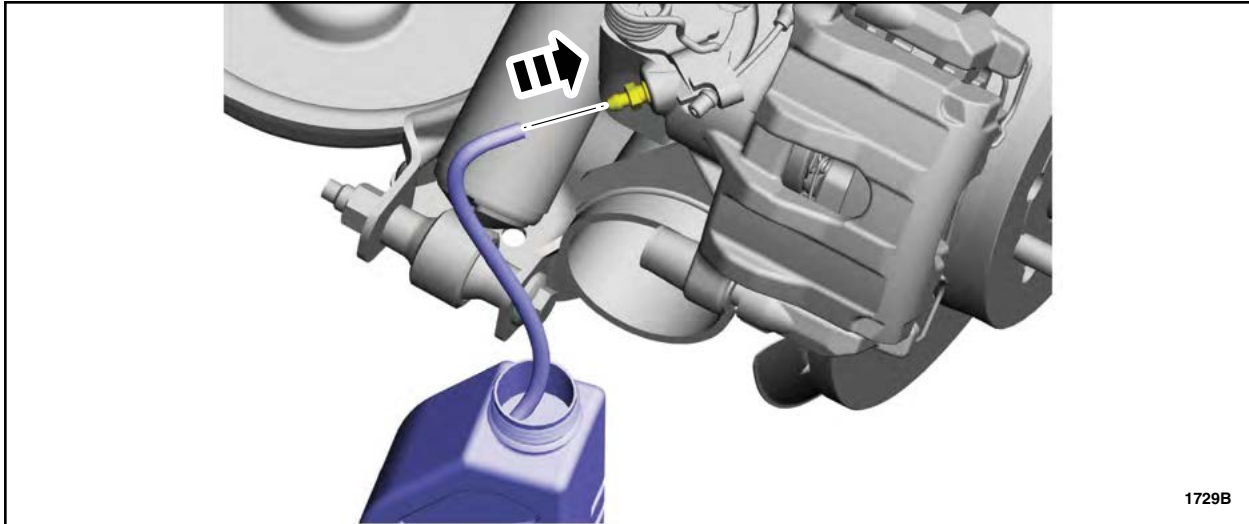

FIGURE 14
- Remove the brake caliper bleeder screw covers and attach fluid capture reservoirs to all four brake caliper bleeder screws. See Figure 14.